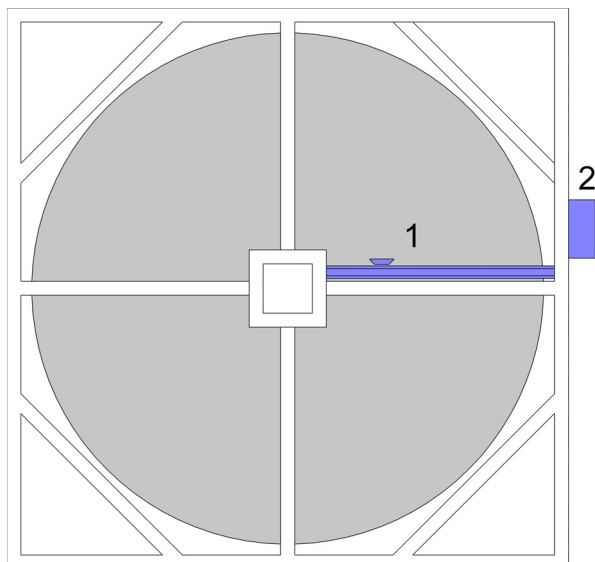

Figure 1
Figure 1 shows an assembly example of the pneumatic way cylinder (1) on the middle spar of the support frame.